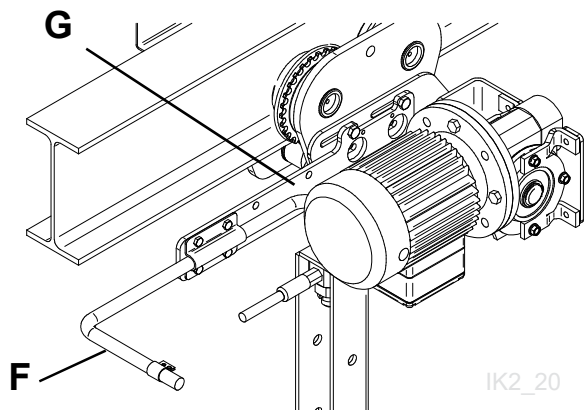

Fig. 16
- If the conductor rail is positioned on the opposite side of the rail, the hoop can be fitted to separate bracket **G**. **See Fig. 16**